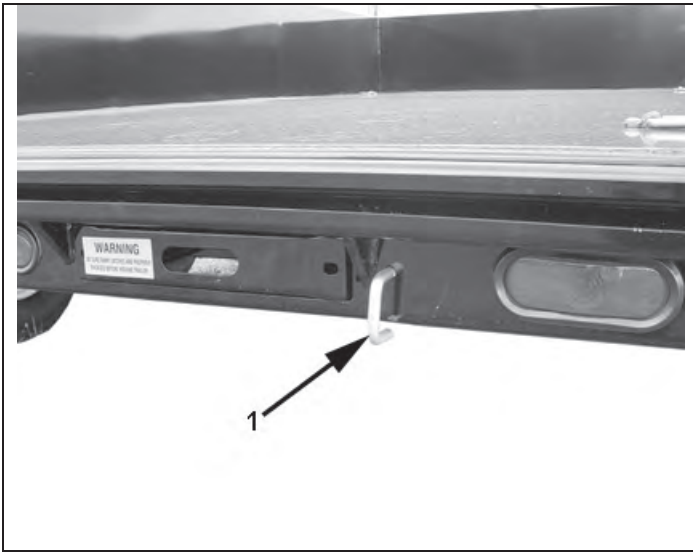

Figure 5-2 - Release Latch Pin On Ramps
- Release pins (1) on ramps. Pin in figure 5-2 is released.